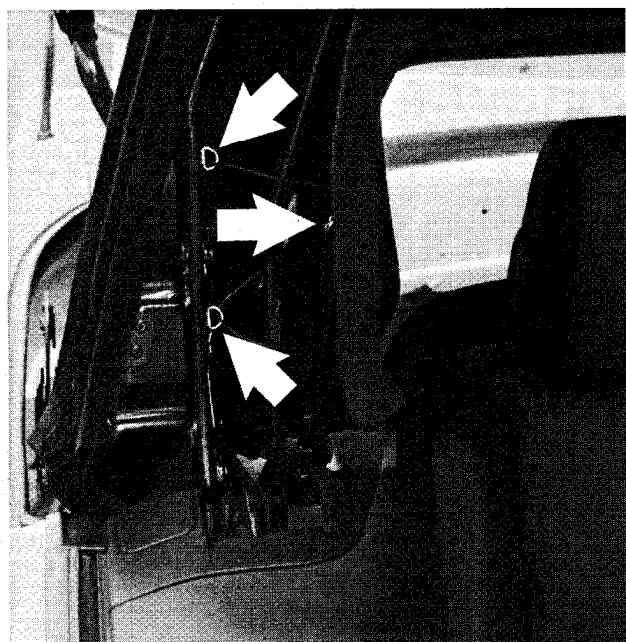

Fig. 10. Headliner tensioning cable and some of its retaining eyelets (arrows).
3. Remove headliner, starting from front and working backward. Note arrangement and lacing of tensioning cable so it can be reinstalled in its original configuration. See Fig. 10.